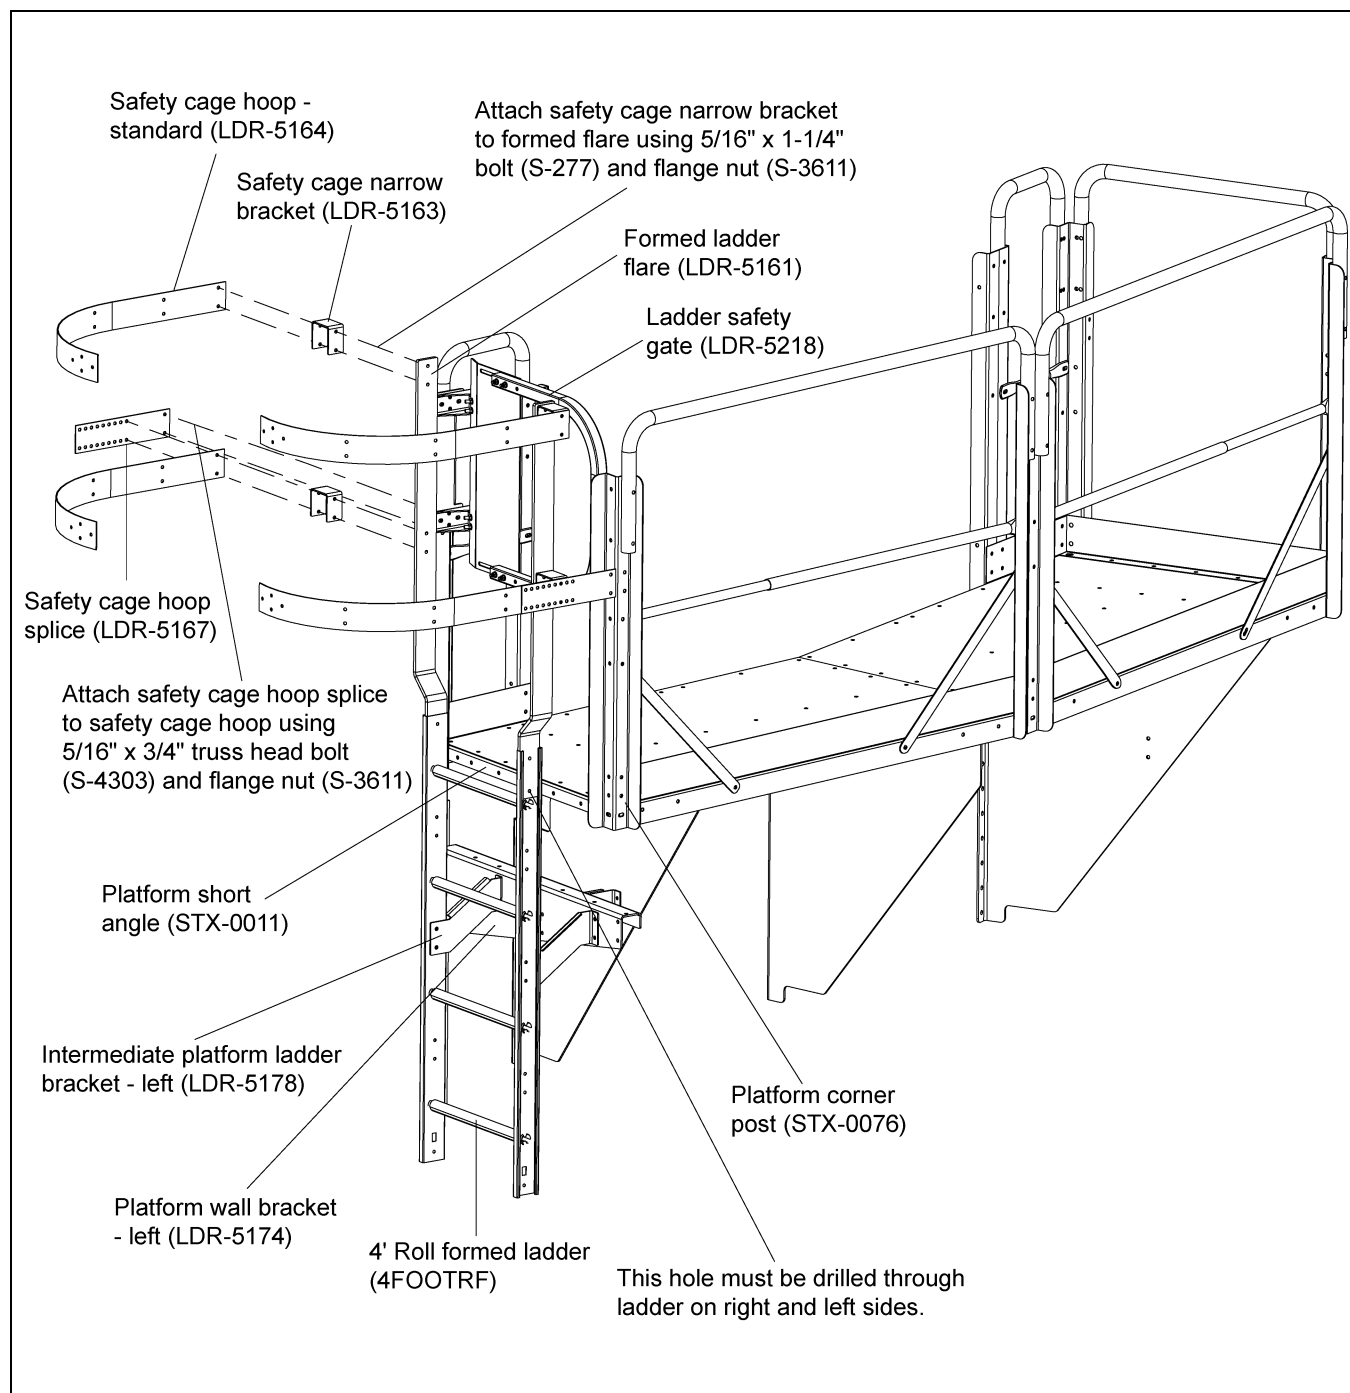

Figure 4S
6. Attach the ladder flare to the ladder using 5/16" hardware. You must drill the bottom hole through the ladder and use 5/16" hardware. (See Figure 4S.)